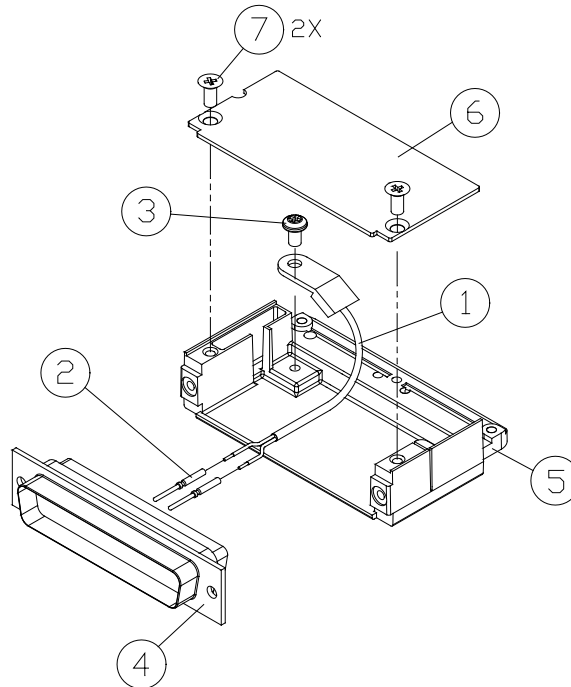

Figure 6-6, GEA Backshell Thermocouple
- Crimp pins, item 2, onto each of the thermocouple wires, item 1. Ensure that pre-stripped wire length is 1/8" prior to crimping.
2. Insert newly crimped pins and wires into the appropriate connector housing location, item 4, as specified by King Air 300 Series Wiring Diagram, listed in Table 1-1.
3. Place thermocouple body, item 1, onto the backshell boss, item 5. Place the thermocouple as shown in Figure 6-6 so that the wires exit towards the bottom of the backshell.
4. Fasten thermocouple tightly to backshell using the provided screw, item 3.
5. Fasten cover, item 6, to backshell using screws, item 7.